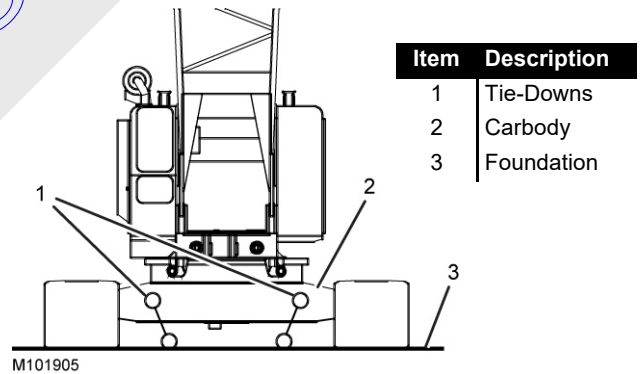

Figure 2-9. Crawler-Mounted Crane
1. Crawler-mounted crane with the carbody anchored with tie-downs to the foundation (Figure 2-9).